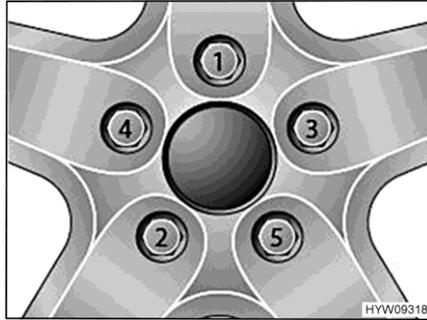

Fig. 160 Tightening the wheel nuts or wheel bolts cross-wise
- Tighten the wheel nuts or wheel bolts in the order shown in Fig. 160. In order to do this, use a torque wrench and comply with the specified tightening torque (see section 13.6.2).
- Check regularly that the wheel nuts or wheel bolts are firmly seated. Re-tighten the wheel nuts or wheel bolts of a changed wheel after 50 km (30 miles). While doing so, proceed in the order shown in Fig. 160.
- When using new or newly painted rims, re-tighten the wheel nuts or wheel bolts once again after approx. 1,000 to 5000 km (600 miles to 3,000 miles). While doing so, proceed in the order shown in Fig. 160.
- ▷ Tighten the wheel nuts or wheel bolts cross-wise (Fig. 160).